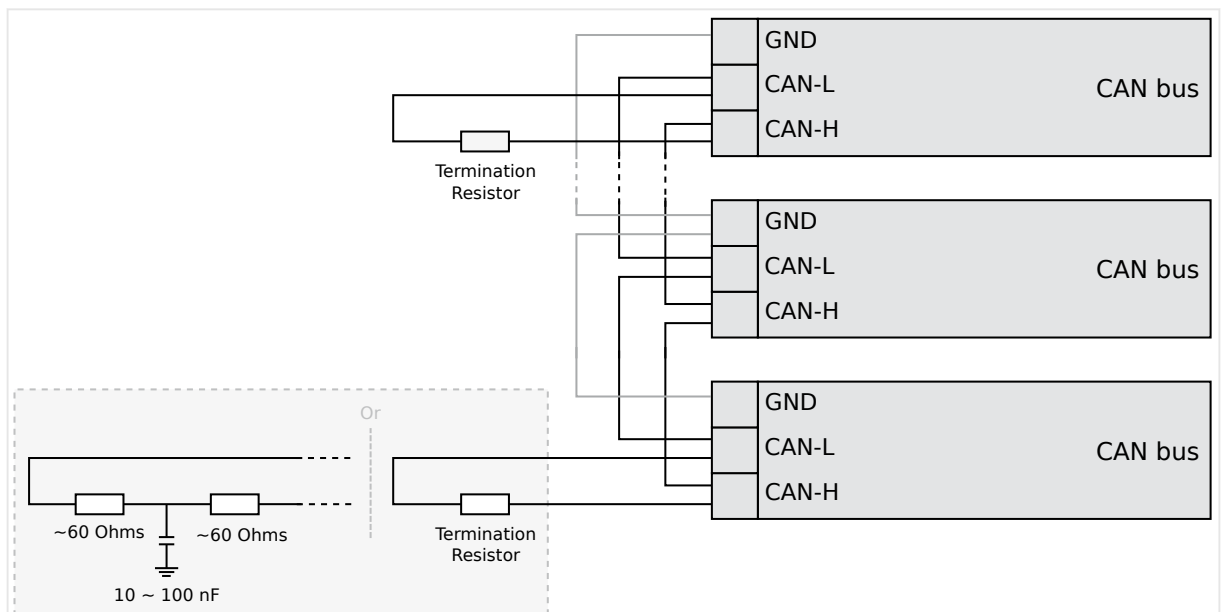

Fig. 69: CAN bus - termination
The termination resistor is connected between CAN-H and CAN-L (↳ Fig. 69).
- Divide the termination resistance into 2x60 Ohms with a center tap connected to ground via a capacitor of 10 to 100 nF (↪ Fig. 69).